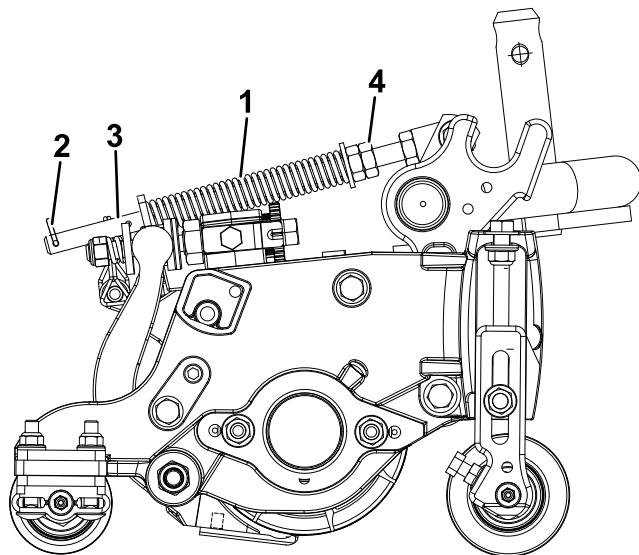

Figure 11
2. Tighten the hex nuts on the front end of the spring rod until the compressed length of the spring (Figure 11) is 12.7 cm (5 inches).
The turf compensation spring (Figure 11) transfers weight from the front to the rear roller. (This helps to reduce a wave pattern in the turf, also known as marcelling or bobbing.)
1. Make sure the hairpin cotter is installed in the rear hole in the spring rod (Figure 11).